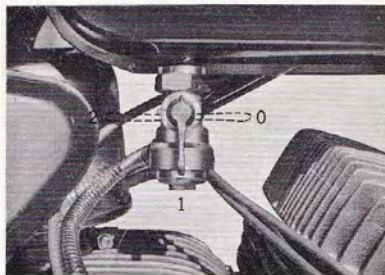

Fig. 5
Gasoline Shut-Off Valve: See Fig. 5.
1. Open Gasoline Shut Off Valve (See Fig. 5). If fuel does not flow to carburetors, turn fuel cock lever to open reserve supply.